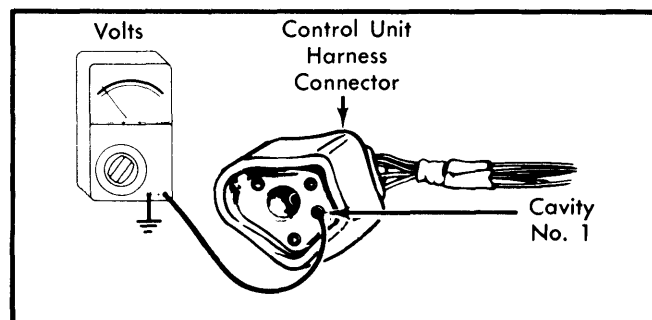
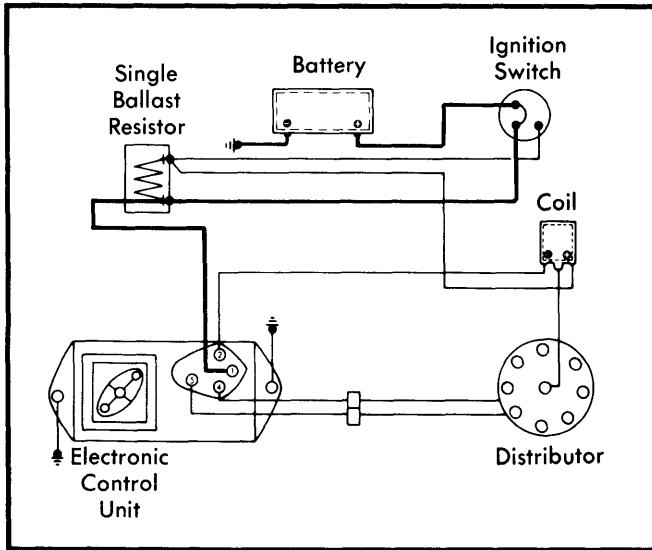

Fig. 4 Checking Voltage at Cavity No. 1
Fig. 5 Circuitry Checked if Cavity 1 Reading Is Not to Specifications
2) Connect voltmeter positive lead to harness connector cavity No. 1. Reading should be within 1 volt of battery voltage. See Fig. 4. If not, check and repair wiring and components illustrated by dark lines in Fig. 5.